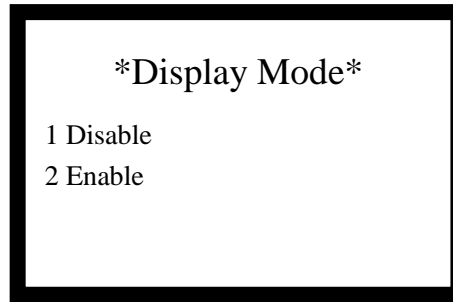

Fig. 6-37
- ◇ You can set the panel to display network message or not by entering number 2, as shown in Fig. 6-37.